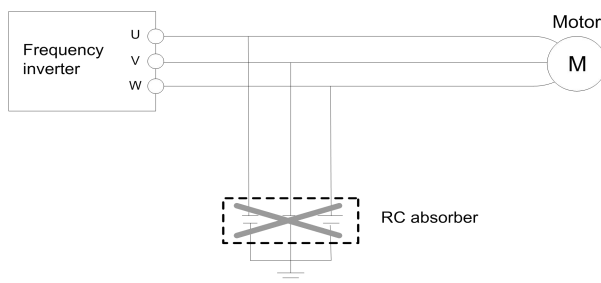

Figure 4-1 RC absorbers shall not be connected at output end
- Absorption capacitor or other RC absorbers shall not be installed at U, V and W output end of the frequency inverter, as shown in Figure 4-1.